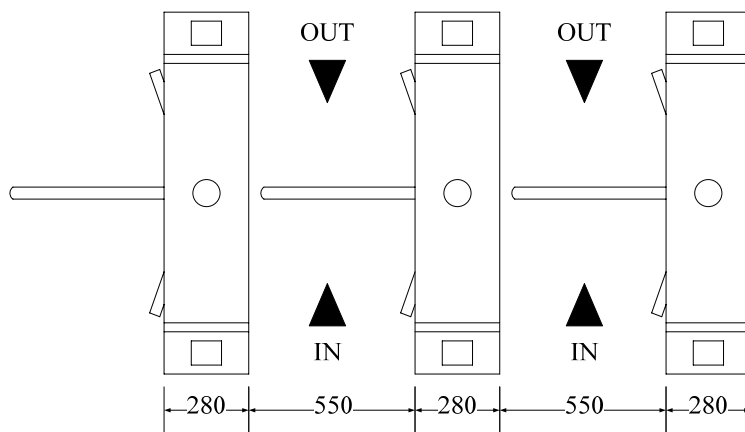

Figure 6
- 6) As shown in the connecting diagram of the system (Attached Figure 6), connect the power line, control line to the connecting socket of the main controller board of the turnstile, and connect properly the protection ground wire.